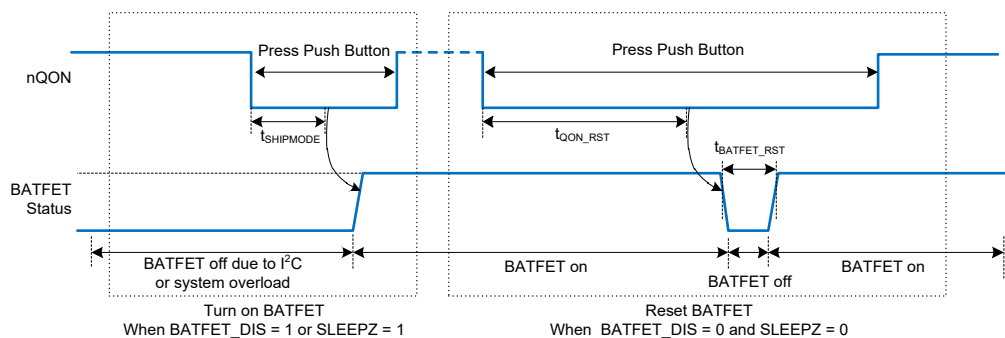

Figure 11. nQON Enable and Reset BATFET Timing
1. Enable BATFET: Applying an nQON logic high to low transition with longer than  $t_{SHIPMODE}$  deglitch time (negative pulse) turns on BATFET to exit ship mode (Figure 11 left). When exiting shipping mode, HIZ is enabled (EN\_HIZ = 1) as well. HIZ can be disabled (EN\_HIZ = 0) by the host after exiting shipping mode. OTG cannot be enabled (OTG\_CONFIG = 1) until HIZ is disabled.
2. Reset BATFET: By applying a logic low for a duration of at least  $t_{QON\_RST}$  to nQON pin while VBUS is not powered and BATFET is allowed to turn on (BATFET\_DIS bit = 0), the BATFET turns off for  $t_{BATFET\_RST}$  and then it is re-enabled resulting in a system power-on reset (Figure 11 right). This function can be disabled by clearing BATFET\_RST\_EN bit.